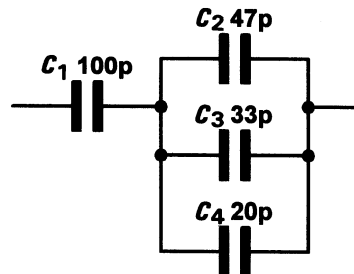

Figure 2.46
- 2.13 Determine the effective capacitance of the circuit shown in Fig. 2.46.